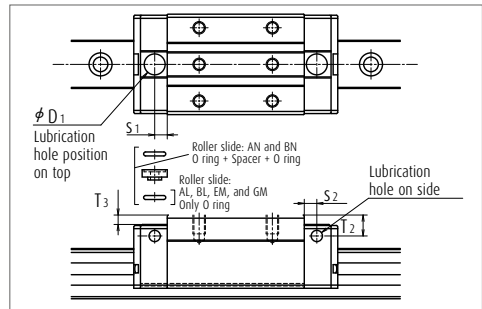

Fig.13 Top and side lubrication hole positions
- ▶ A lubrication hole can also be provided on the top of the end cap. Fig.13, Table 9 and Table 10 show the mounting position. A spacer is required for AN and BN shape roller slides. The spacers are available from NSK.